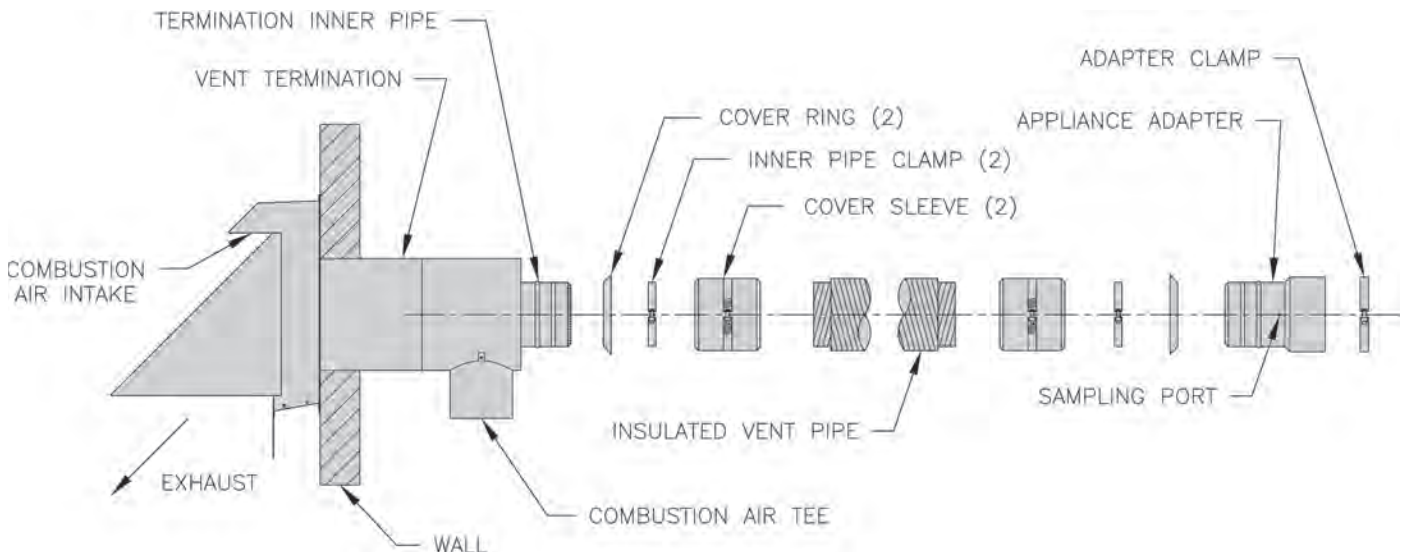

Figure 17: FDVS Component Breakdown
3. After completing assembly of the flexible double wall insulated vent pipe to the vent termination inner pipe (see Figure 17 and the following Steps), apply the supplied high temperature sealant to seal around the inner pipe protrusion thru the vent tee cover pan, around the joint between the vent tee collar and the vent tee body, and, seal or tape the joint between the vent termination outer pipe and the vent tee body.